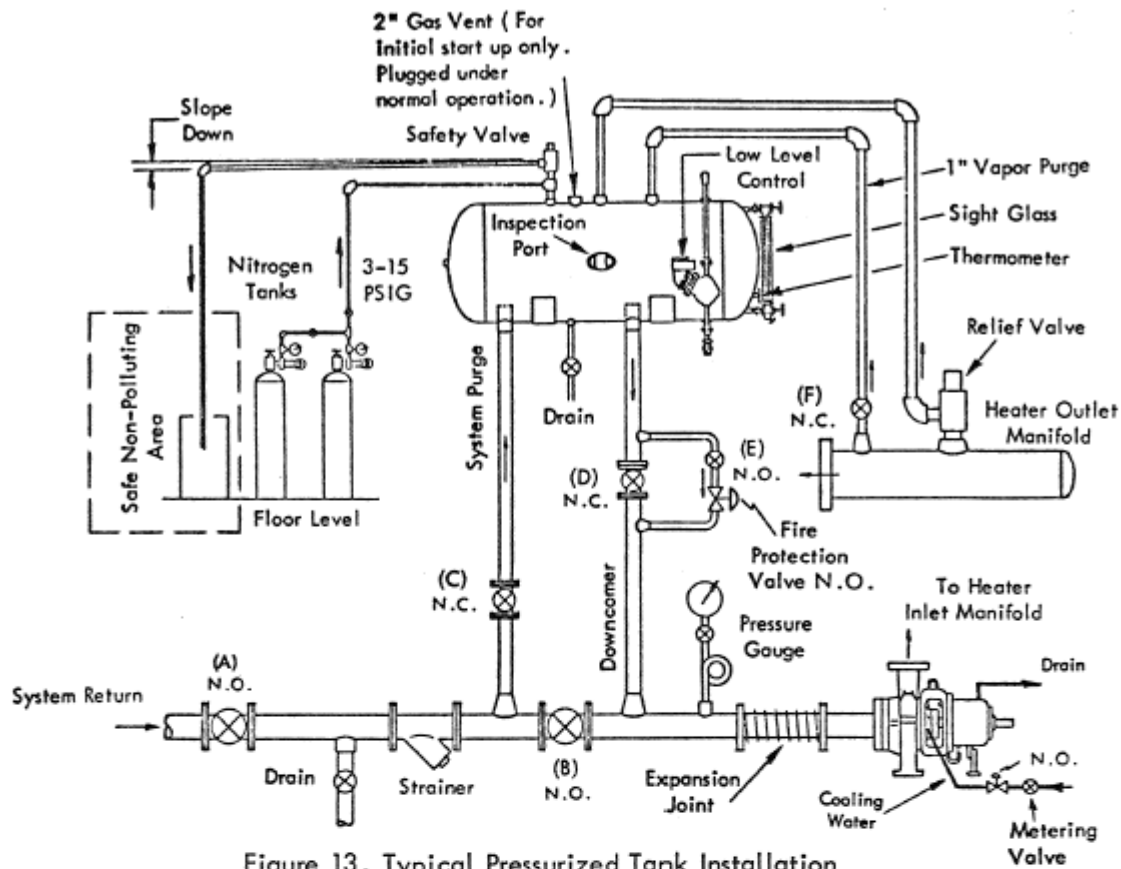

Figure 13, Typical Pressurized Tank Installation
13.6.2 Your Vapor Power Liquid Phase Heater is supplied with a safety relief valve set to relieve at a specific design pressure. This valve must relieve to the expansion tank as illustrated in Figures 13 and 14. This is a heater safety device only and is not to be used to protect your system or its components. System relief valves should be installed where required.
13.7.1 Install a full pipe size, flanged strainer in the system return line as close to the heater as possible, so that it can be serviced conveniently. As illustrated in Figures 13 and 14, the expansion tank downcomer line must be connected to the return line between the strainer and the pump inlet. The system should be heated to operating temperature and cooled, for a minimum of two (2) cycles. The resultant expansion and contraction will loosen pipe mill scale.
13.7.3 As illustrated in Figures 13 and 14, a flanged gate valve should be installed on each side of the strainer. A drain line with valve should be installed between the two gate valves for draining that section of pipe. A small drain line and valve may also be installed in the strainer. This will facilitate removal and cleaning of the strainer screen.
13.8.1 Proper design of the expansion tank for the fluid system is quite simple, but is also very important for proper system operation. (See Figures 13 and 14)
13.8.5 The expansion tank must be installed close (2 to 3 feet) to the suction side of the circulating pump and be located above the highest point in the system. Connect the tank to the system return piping with two (2) lines, one pipe size smaller than the system return piping but not to exceed 3". The downcomer, as illustrated in Figures 13 and 14, and the 3/4" bypass line, provides the necessary head to the pump inlet during normal operation. Thermal recirculation will not occur during normal operation, since the main valve (D) is closed directing fluid through the bypass line. The system purge line (see Figures 13 and 14), as the name implies, is used to vent vapors from the system. This line is required for initial start-up only or in the event the system must be drained for repair.
13.8.8 Care must be taken to prevent entry of atmospheric moisture into the expansion tank -- and thus into the system – as the fluid expands and contracts due to fluid temperature changes. The recommended method would be to pressurize the expansion tank with 3 to 5 psig of nitrogen (see Figure 13). This will blanket the fluid with an inert gas and thus prevent condensation and oxidation. However, prior to sealing and pressurizing, the system must be purged of all moisture and low boiler vapors. The Vapor Power Service Representative will provide instructions on system drying during the initial start-up of the heater. As noted in Paragraph 13.8.5, the expansion tank should be connected 2 to 3 feet from the pump. If the fluid system design makes this impossible, pressurizing the expansion tank will increase the net positive suction head (NPSH) available to the pump to prevent possible pump cavitation.
17.1 Filling By Vacuum (See Figures 13 and 14)
18.1 Referring to Figures 13 and 14, a fire control valve is indicated in the bypass line of the downcomer. This control valve works in conjunction with heater fire prevention equipment installed by customers. Should a fire occur in the heater, other than the controlled fire at the main burner, detection equipment would shut the heater down completely, close the fire protection valve to prevent admittance of heat transfer fluid from the expansion tank, and activate extinguishing equipment. System valves should also be closed to isolate the heater and system.